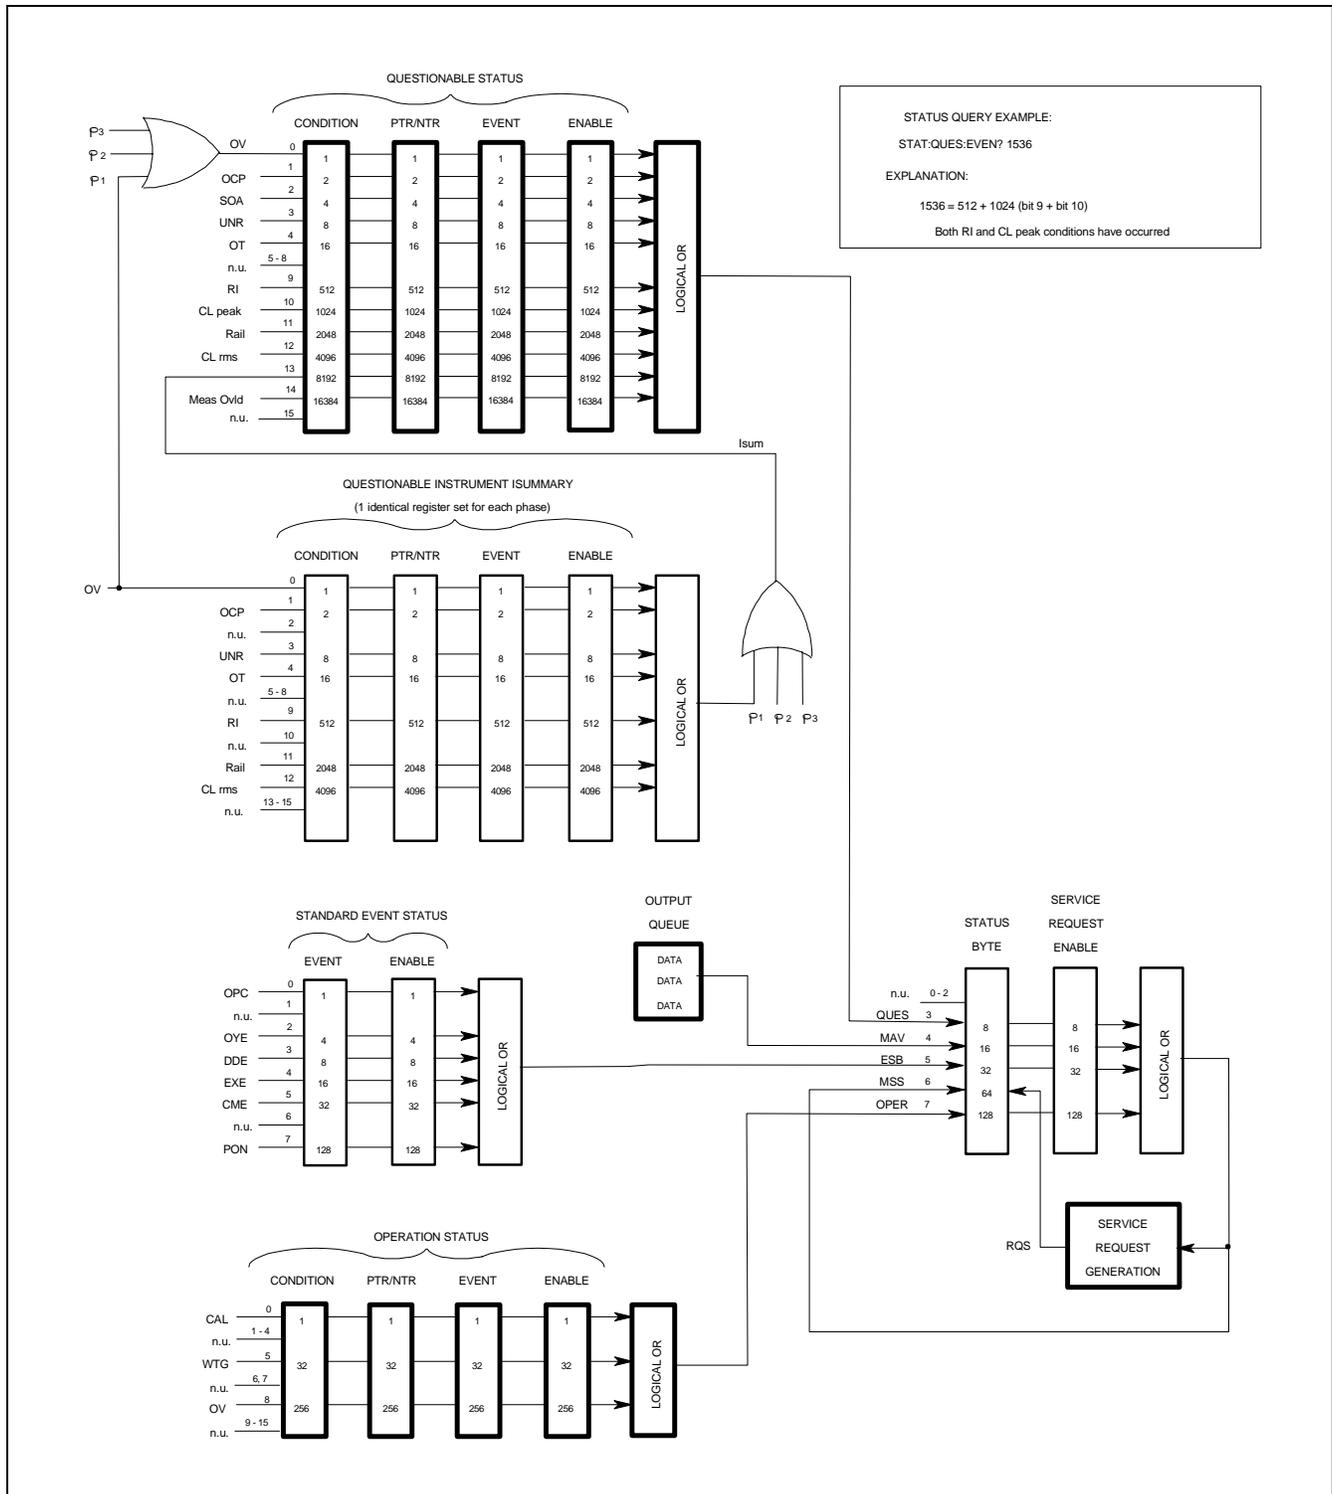

Figure 4-5. Ac Source Status Model
Figure 4-5 shows the status register structure of the ac source. Table 4-1 defines the status bits. The Standard Event, Status Byte, and Service Request Enable registers and the Output Queue perform standard GPIB functions as defined in the IEEE 488.2 Standard Digital Interface for Programmable Instrumentation. The Operation Status, Questionable Status, and Questionable Instrument Summary Status registers implement functions that are specific to the ac source.
The Questionable Status registers record signals that indicate abnormal operation of the ac source. As shown in the figure 4-5, the group consists of the same type of registers as the Status Operation group.
**NOTE:** In a **three-phase ac source**, each signal that is fed into the Questionable Status Condition register is logically-ORed from three corresponding status signals that originate from each phase. Figure 4-5 illustrates this for the OV bit; the same illustration also applies to the other bits in the Condition register.
This group consists of an Event register and an Enable register that are programmed by Common commands. The Standard Event register latches events relating to interface communication status (see figure 4-5). It is a read-only register that is cleared when read. The Standard Event Enable register functions similarly to the enable registers of the Operation and Questionable status groups.
This example assumes you want a service request generated whenever the ac source's overvoltage, overcurrent, or overtemperature circuits have tripped. From figure 4-5, note the required path for Questionable Status conditions at bits 0, 1, and 4 to generate a service request (RQS) at the Status Byte register. The required register programming is as follows: